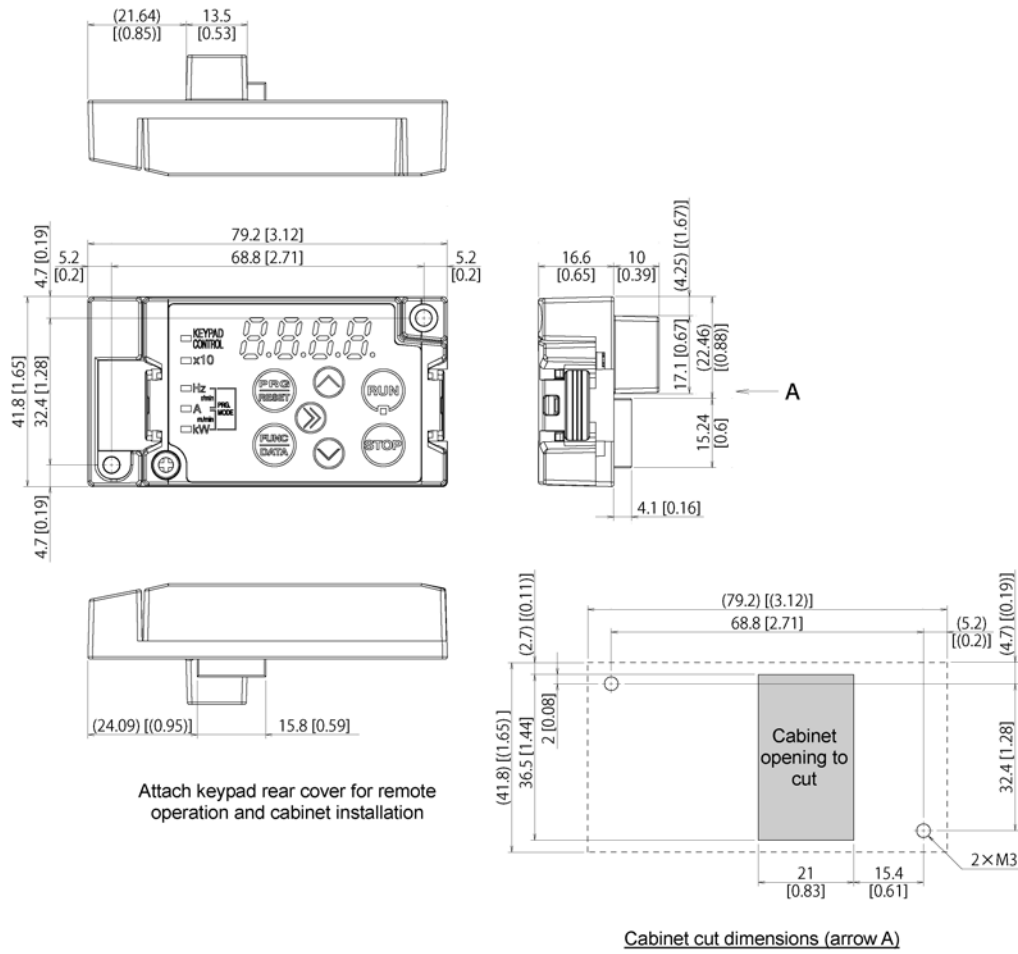

Figure 2.3-6 Fixing Screw Positions and the Dimensions of the Cabinet to Cut
(3) Cut the cabinet to attach the keypad, as shown in figure 2.3-6